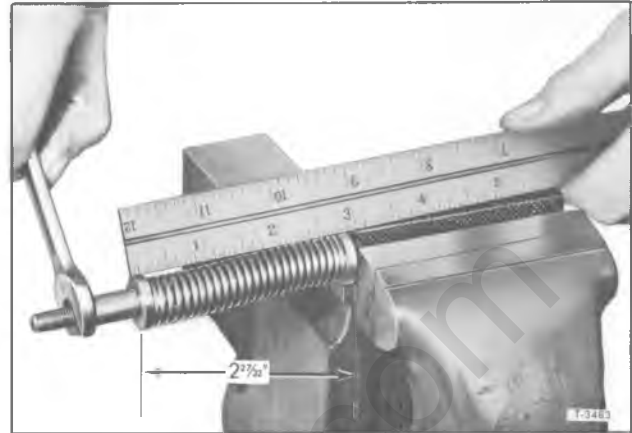

Figure 25—Adjusting Push Rod (Corporation)
2. Tighten adjusting nut until dimension over washers at each end is 2-27/32" (fig. 25). Install and tighten lock nut, being careful not to change dimension.